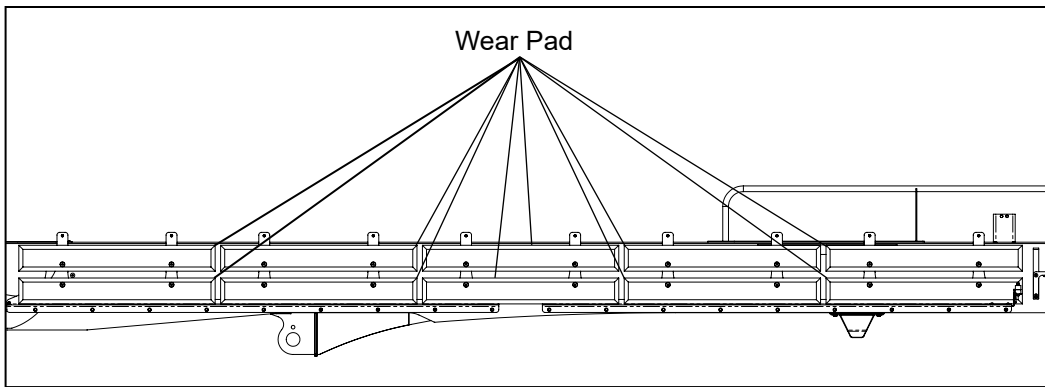

Figure 2 — Inspecting the Wear Pads (Full View of 10)
4. From the boom tip looking towards the turntable, inspect the hose carrier assembly and confirm if there are 5 or 10 wear pads installed behind the hose carrier tray (refer to Figures 2 and 3). The 10 wear pads will be installed in 2 rows of 5 (refer to Figure 2). Record the results in line 2 of the Inspection Results table on page 4.